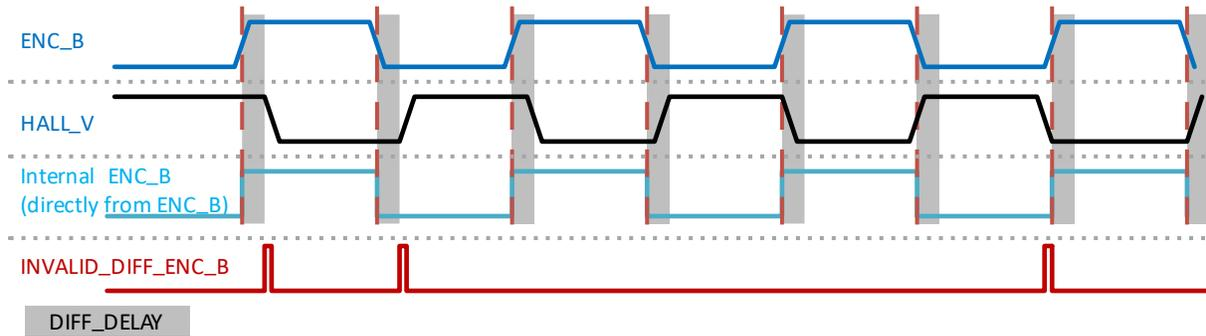

Figure 27. Digital differential ABN encoder monitoring, example for ENC\_B vs. HALL\_V pins, DIFF\_DELAY is active after ENC\_B switches
- Digital differential ABN encoder monitoring only, represented in Figure 27.